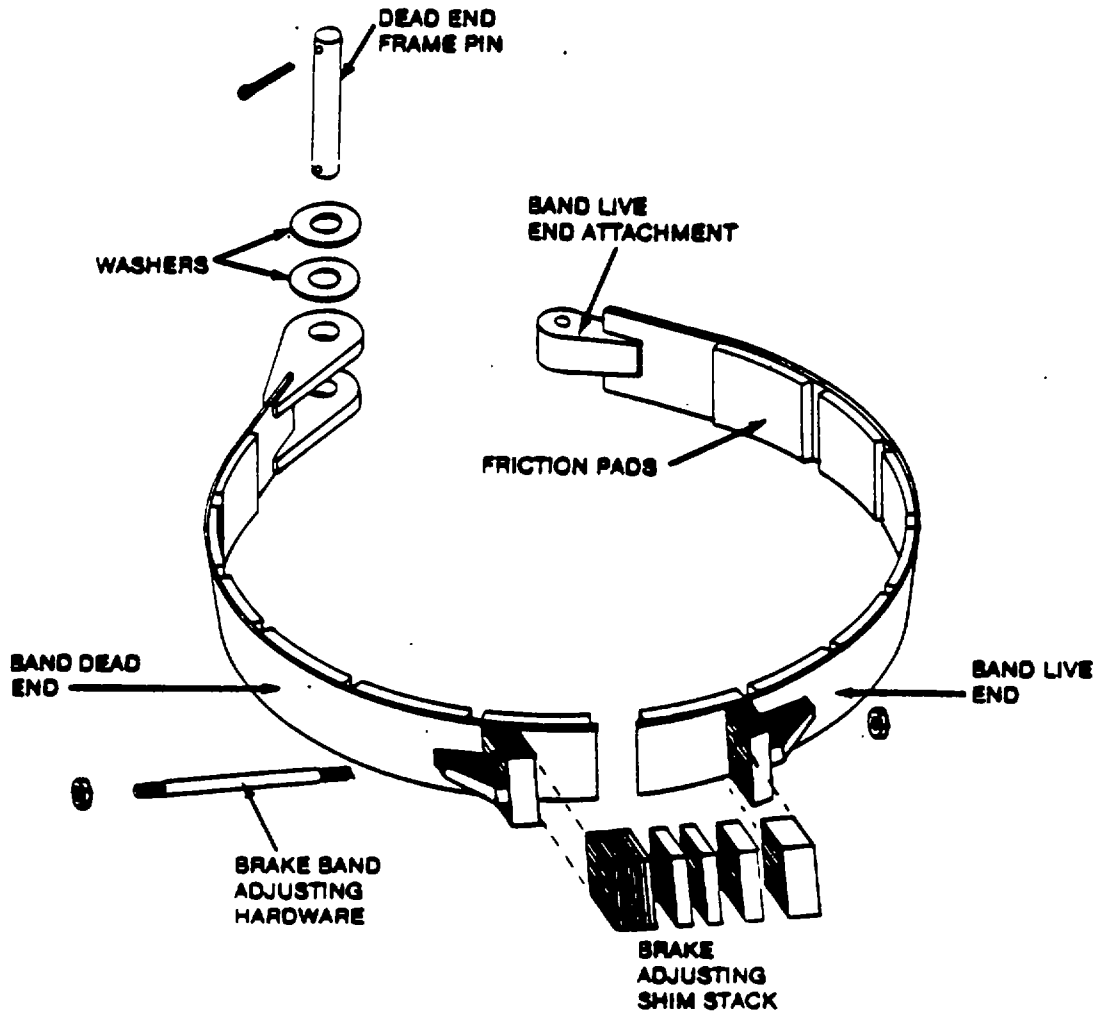

Figure 5-45. Brake Band Assembly.
(4) Apply air pressure to release parking brake.
(5) Loosen and remove adjusting bolts and shims between live and dead brake bands (Figure 5-45).